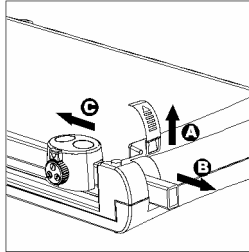

Fig. 8
- 1 Remove the end cap of the guide rail from the base plate (Fig. 8, A) by pulling it upwards.
- 2 Pull the guide rail out of the base plate (Fig. 8, B).
- 3 Remove the cutting head from the guide rail (Fig. 8, C).